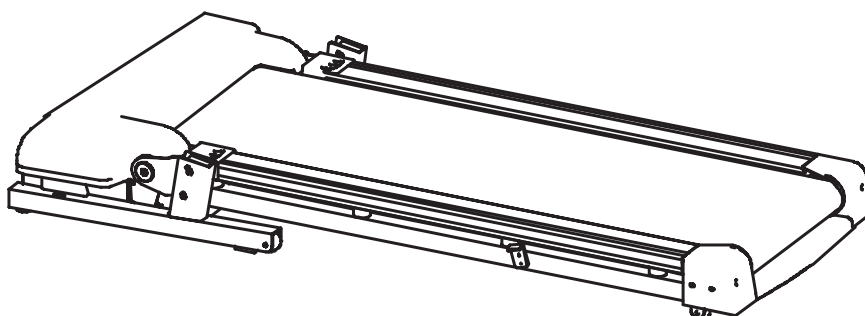

Figure 1: Deck in down position
1. With the treadmill deck in the down position, leave the unit on the original packing material to assemble all parts. Refer to figure 1.